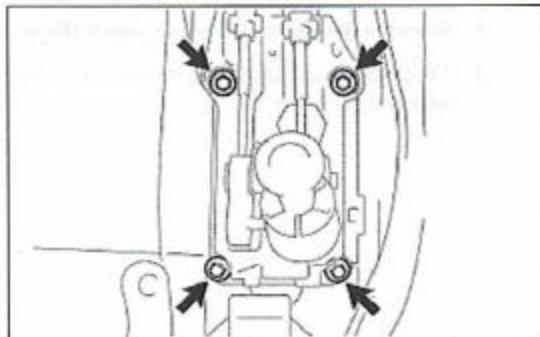

Figure 3
7. Remove the four bolts (Figure 3). Retain them for reinstallation.